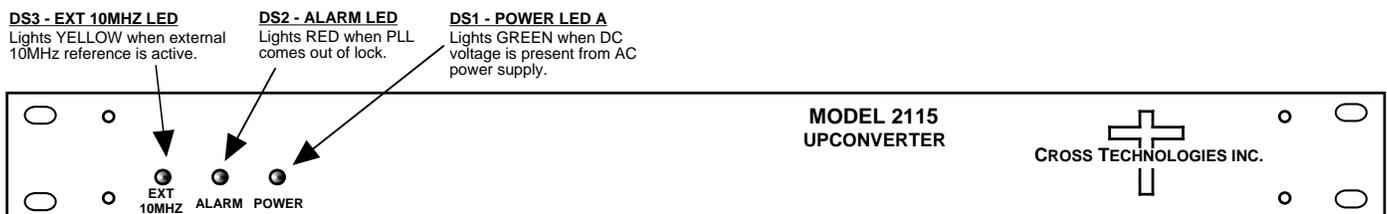

**FIGURE 2.1 2115-275-1845 Rear Panel I/O's**
## 2.2 Rear Panel Input/Output Signals - Figure 2.1 shows the input and output connectors on the rear panel.
1. Connect a -40 dBm to -25 dBm signal to L-BAND INPUT, J1 (Figure 2.1).
5. Select either INT (for internal 10MHz ref), AUTO (for internal 10MHz ref UNLESS a external 10MHz, 3 dBm signal is connected to J2), or EXT (for external 10MHz, 3 dBm ref that is inserted at J2) on rear panel switch S1 (Figure 2.1).
7. Check that a 10MHz, 3 dBm  $\pm$ 3 dB signal is present at the 10MHZ REF OUTPUT (J8) (Figure 2.1).